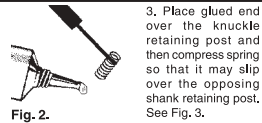

Fig. 2.
2. Touch one end of the spring into the cement so that no more than one or two coils are coated (too much cement will hamper coupler performance). See Fig. 2.